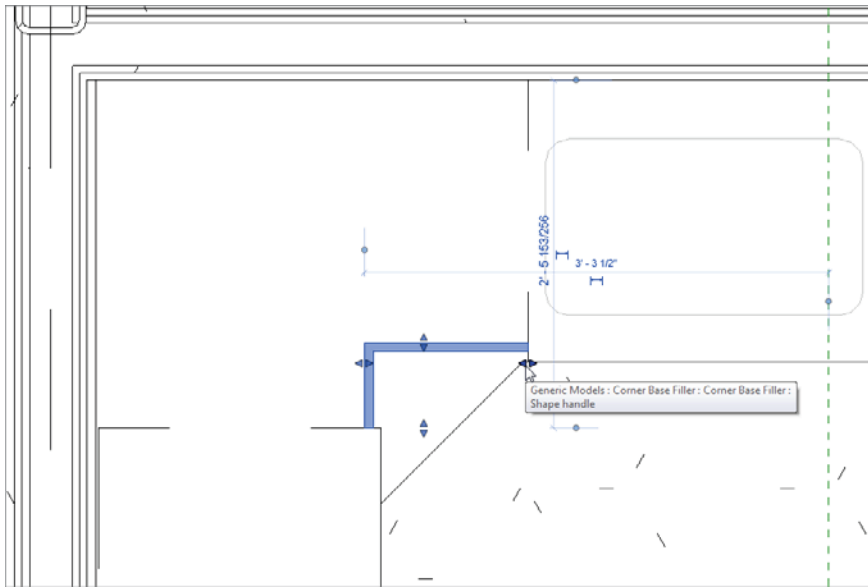

FIGURE 9.64 The completed corner
14. Stretch the grips until the filler resembles Figure 9.64.